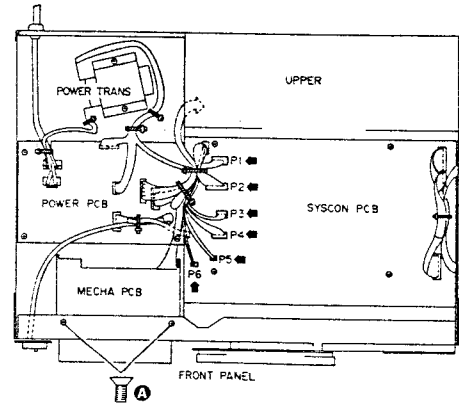

Fig. 3-5
- 2) Remove the six connectors P1-P6 from the SYSCON PCB. Remove mechanism block securing screws **A**. (Refer to Fig. 3-5.)